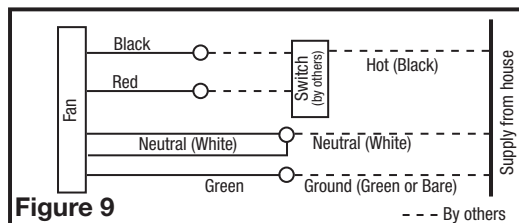

Figure 9
- From where you have chosen to access the fan's junction box, connect the White wire from the house to the two White wires from the fan. Connect one Hot (Black) wire from the wall switch to the Black wire from the fan (this is the fan control). Connect second Hot (Red) wire from the wall switch to the Red wire from the fan (this is the main light control). Connect the ground wire (green or bare copper) from the house to the Green wire from the fan (**Figure 9**). Use approved methods for all connections.